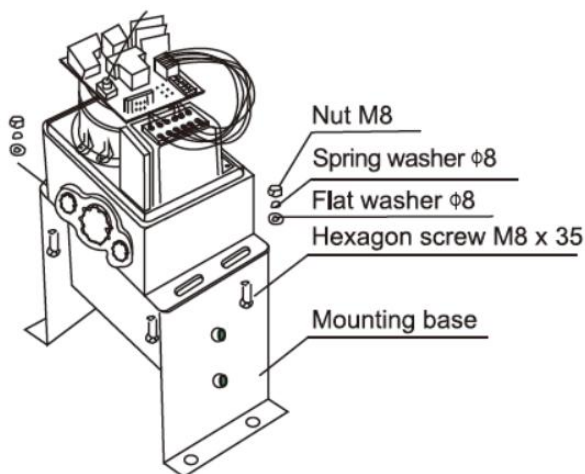

Figure 6
c) Assemble the machine engine to the mounting base as shown in Figure 6;